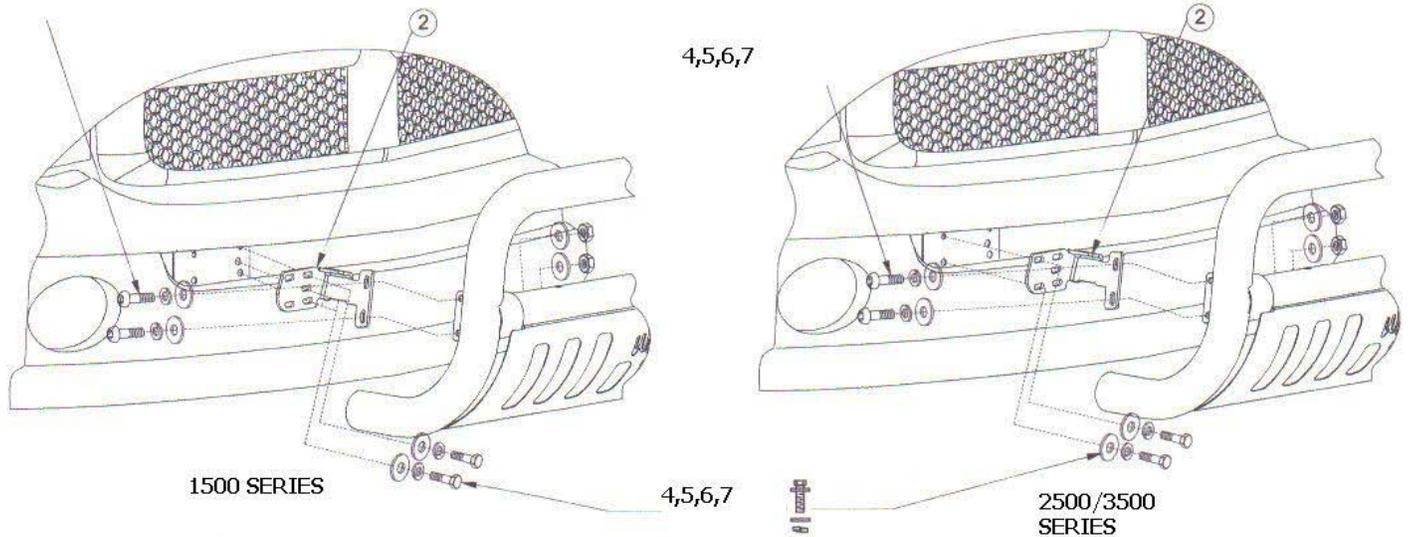

FIGURE 3-INSTALLATION VIEW OF PASSENGER SIDE, DRIVER SIDE OPPOSITE
**STEP 3** DETERMINE PASSENGER AND DRIVER BRACKETS. SEE FIGURE 3. REMOVE TOW HOOKS. KEEP FASTENERS FOR REINSTALLATION.
**STEP 5** LOCATE FOUR HOLES ON FRAME BRACKET. POSITION BRACKETS TO TWO HOLES CLOSEST TO THE OUTSIDE OF VEHICLE. NOTE: 1500 MODELS USE TWO INSIDE SLOTS. 2500/3500 MODELS USE OUTSIDE MOST SLOTS. VEHICLES WITH TOW HOOKS USE FACTORY FASTENERS TO ATTACH BRACKETS, OTHERWISE USE 3/8" FASTENERS. LEAVE LOOSE. SEE FIGURE 3.
**STEP 6:** ATTACH BULL BAR TO BRACKETS USING 3/8" FASTENERS AS SHOWN. MAKE SURE MOUNT TABS ON HOOP ARE INSIDE BRACKETS. LEAVE LOOSE. SEE FIGURE 3.